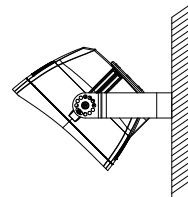

figure 3.8
- Step 3: Loosen screw; Adjust fixture angles as per actual demands and tighten screws later. (figure 3.8),Tips: Angles of the fixture is adjustable.